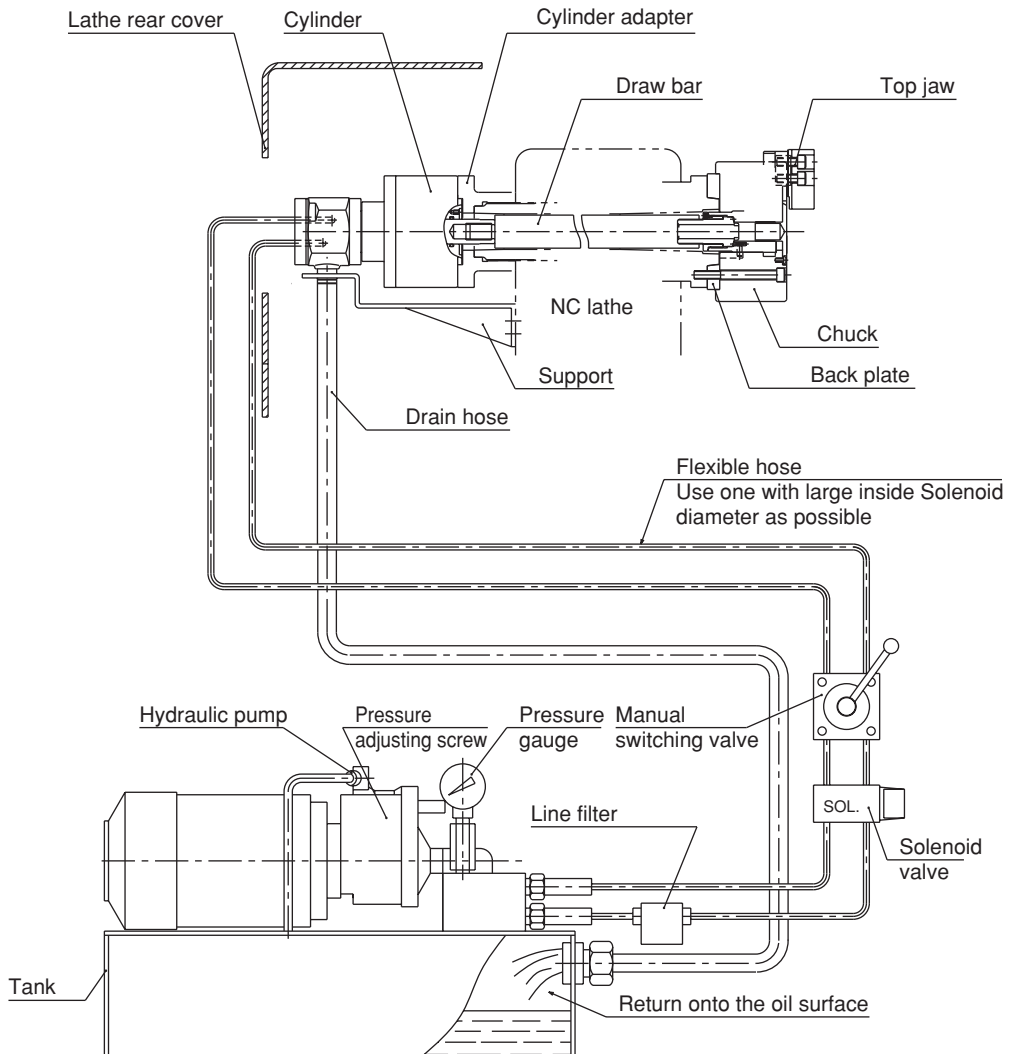

Fig. 13
- The end of the hose is physically above the oil level. (Refer to Fig.13)